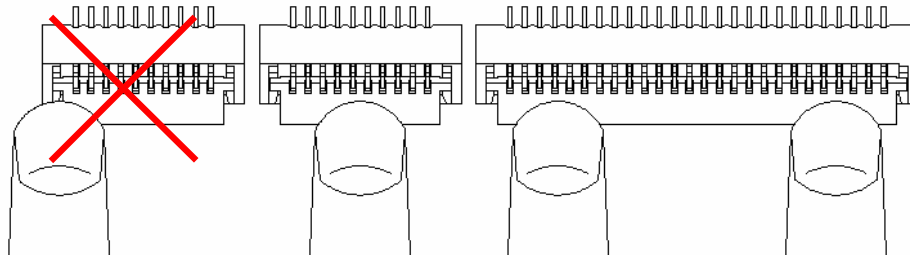

Figure 7.
- When locking the actuator(Lock), please make sure that the actuator is entirely closed by pressing on the entire actuator. Pushing the one specific point of the actuator may cause the actuator to be detached or damaged. When locking the longer actuator(Lock), please use two points to put pressure on locking. (see figure 7).